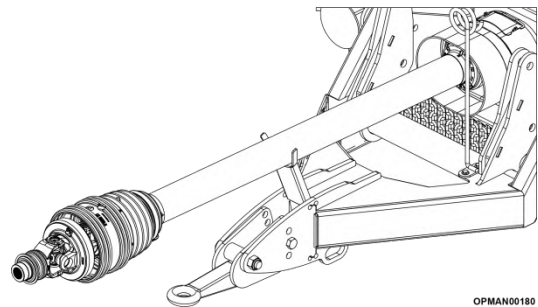

Figure 4.14 – PTO Support Bracket
4.5.1.7 If the shaft is not destined to be removed completely, utilise the machines PTO support bracket to rest the PTO shaft on; see Figure 4.14. This will ensure that the shaft doesn't get contaminated with dirt.